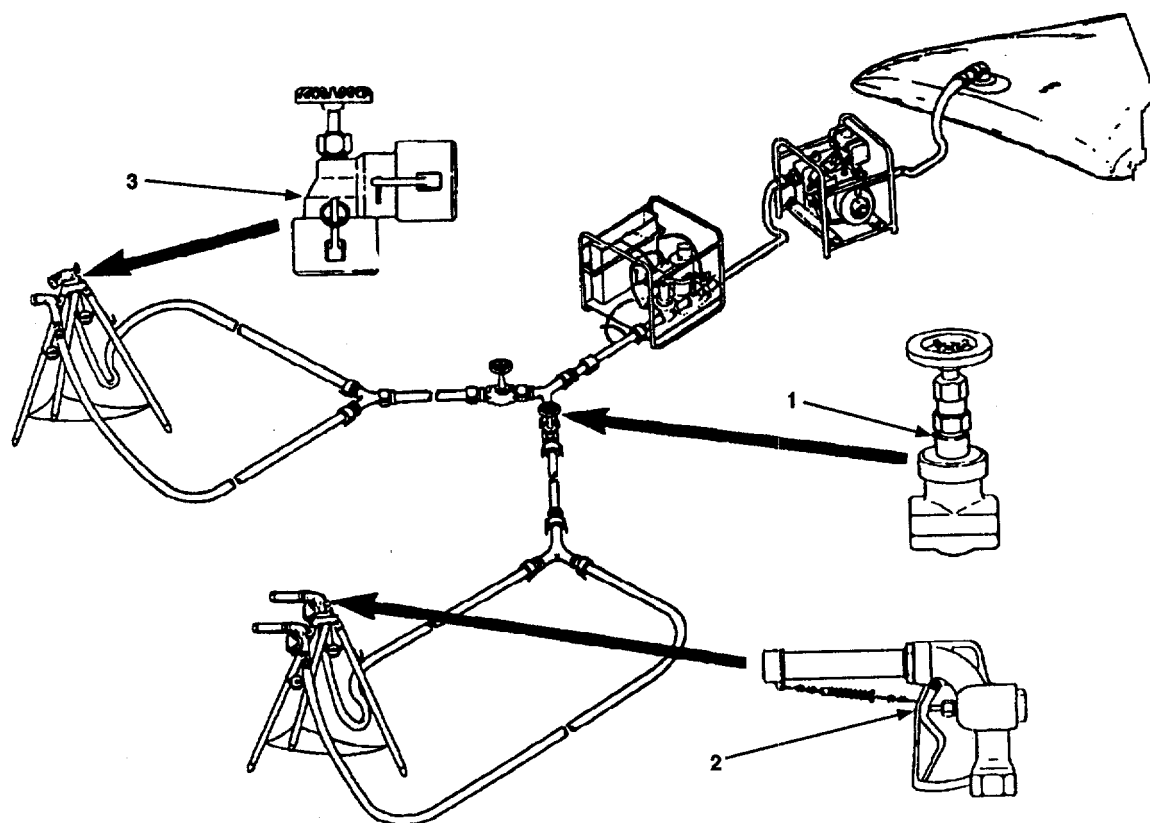

Figure 2-5. Operator's Controls and Indicators for TWDS Distribution Point.
2.1.5 TWDS Distribution Point. See figure 2-5 and table 2-5.